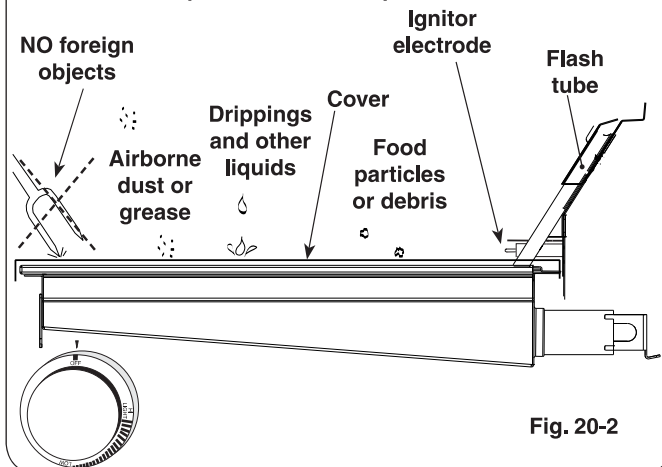

Fig. 20-2
- When not in use, **always** cover the infrared burner with the stainless-steel cover. This protects the burner from drippings (from other cooking), airborne particles, and foreign objects (Fig. 20-2).
- Do not strike or scratch the burner ceramic as it may chip, crack, or break (Fig. 20-2).